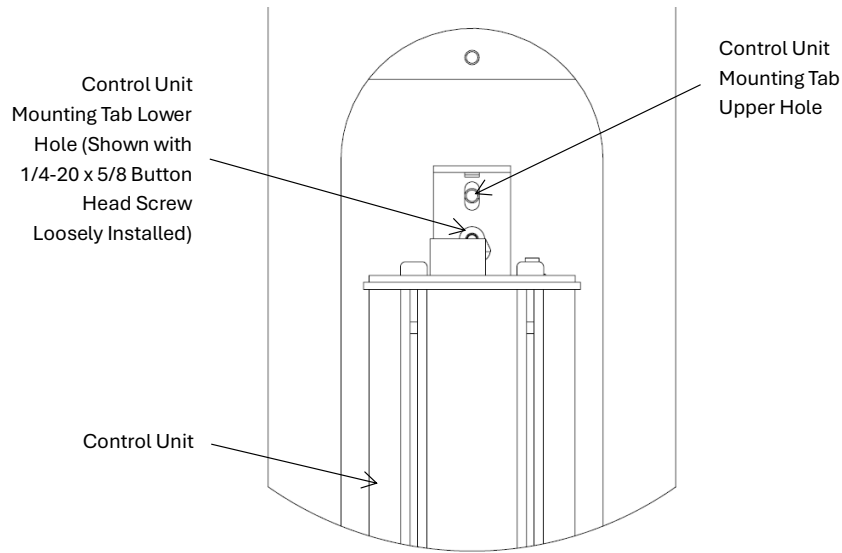

Fig. 12.1-4: Loosely Install Control Unit Mounting Screw
4. Insert the control unit into the hand hole. Hang the control unit by engaging the mounting tab lower hole onto the previously installed screw (refer to Figure 12.1-4).